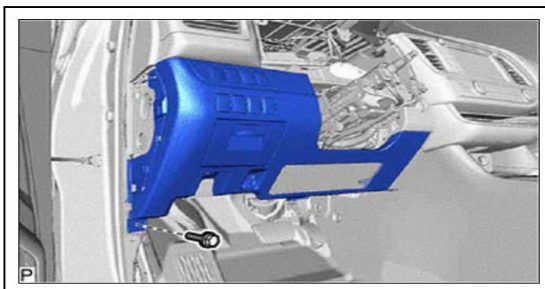

Figure 19
- a. Remove the bolt . See Figure 19.